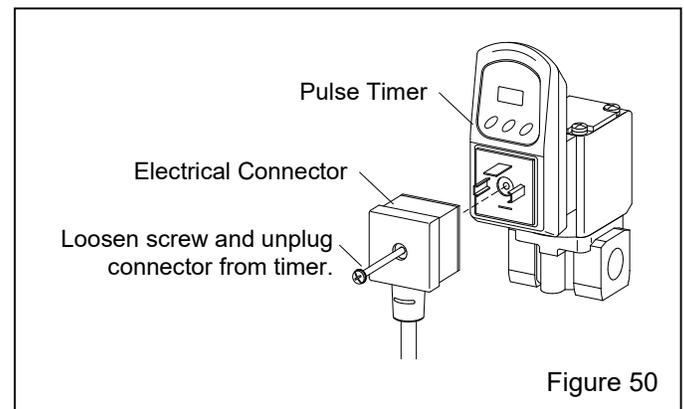

Figure 50
**7.17.1** Loosen the connector screw and unplug the electrical connector from the timer, as shown in Figure 50.